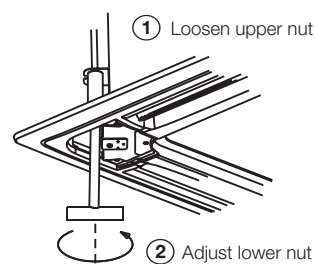

Fig.4-19
- 5) You can modify the height of the indoor unit through the openings on the panel's four corners, if the lift of the indoor unit and the drainpipe is not influenced (refer to Fig.4-19).